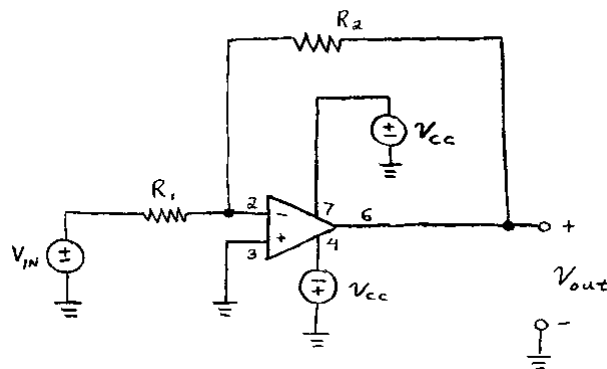

Figure 3 – Inverting Amplifier
The circuit of Figure 3 is called an *inverting amplifier*. The current flowing from V_{in} into R_1 must also flow through R_2 , because essentially zero current flows into the high resistance of the V_n terminal (pin 2) of the op-amp. When a V_{in} is applied, the output voltage of the op-amp adjusts itself until the voltage between V_n and V_p falls toward zero. With the V_p terminal (pin 3) grounded, the V_n terminal (pin 2) also remains at ground potential, causing all of V_{in} to appear across R_1 . The current flowing through R_1 determined by Ohm's Law, thus becomes $i_1 = V_{in}/R_1$. This same current must flow as i_2 through R_2 . With V_n at ground, the op-amp voltage becomes
- Build the circuit of Figure 3 with a 741 op-amp and these resistors. Refer to the datasheet in the appendix for the op-amp pin diagram.
- Redraw figure 3 with a load resistor